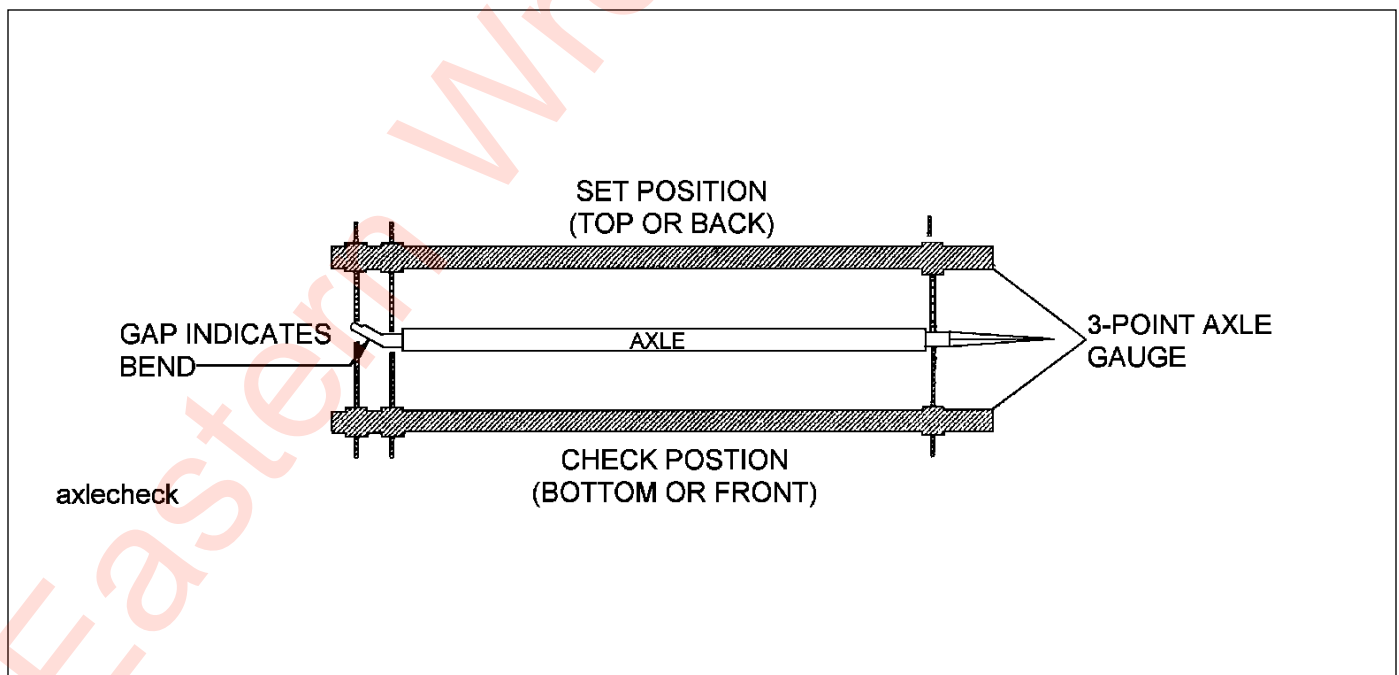

Figure 4-5: Checking Axle for Bend
2. Place a 3-point axle gauge against the front side of the axle, and adjust each axle gauge point to the axle. (Double point end against the inner and outer wheel bearing surfaces of the spindle being checked and the other point on the inner bearing surface on the other spindle.)(See Figure 4-5.)